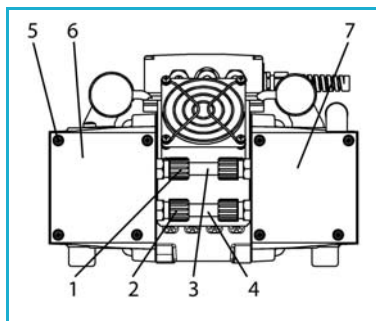
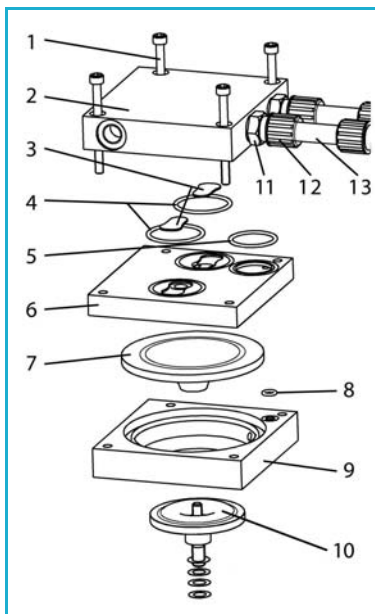

Fig. 9: Removing pump head (example N 940.5 APE)
Fig. 10: Replacing molded diaphragm and valve plates (1. and 2. pump head).
1. At the pneumatic connections (3, fig. 9) and (4) between the first and second pump head: Use pliers to loosen union nuts (1) and (2) by turning them counterclockwise.
2. At the first pump head (6, fig. 9) mark the position of head plate (2, fig. 10), intermediate plate (6) and adapter (9) relative to each other by a drawing line with a felt-tip pen. This helps to ensure proper assembly.
3. At the first pump head unscrew the four screws (1, fig. 10) and remove the head plate (2). Intermediate plate (6) is visible.
4. Take off intermediate plate (6) from adapter (9).
1. Place the intermediate plate (6) with valve plates (3), O-rings (4) and O-ring (8) on the adapter (9) in accordance with the felt-tip pen marking.
2. Place the head plate (2) on the intermediate plate (6) in accordance with the felt-tip pen marking. In doing so, pull the pneumatic connections (13) onto the two screw fittings (11) in the head plate. Do not yet tighten the union nuts (12).
3. Make sure that the adapter (9), intermediate plate (6), and head plate are flush with each other.
4. Tighten the four screws (1) diagonally hand-tight.
i Second pump head: See position (4) in fig. 9.
Then use pliers to securely tighten (turn in clockwise direction) the two union nuts (**12**, fig. 10) at the two pneumatic connections (**13**) between pump heads 1 and 2.